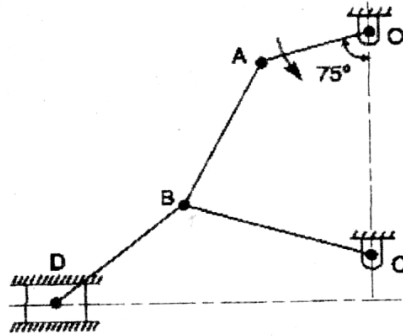

Fig. 12 (a)
- (b) (i) The distance between two parallel shafts is 15 mm and they are connected by an Oldham's coupling. The driving shaft revolves at 150 r.p.m, what will be the maximum speed of sliding of the tongue of the intermediate piece along its groove ? (8)
- (ii) With neat sketches explain any two straight line generator mechanisms. (8)
12. (a) In figure, the angular velocity of the crank OA is 600 r.p.m. Determine the linear velocity of the slider D and the angular velocity of the link BD, when the crank is inclined at an angle of 75° to the vertical. The dimensions of various links are: OA = 28 mm; AB = 44 mm; BC = 49 mm; and BD = 46 mm. The centre distance between the centres of rotation O and C is 65 mm. The path of travel of the slider is 11 mm below the fixed point C. The slider moves along a horizontal path and OC is vertical. (Refer fig. 12(a)) (16)